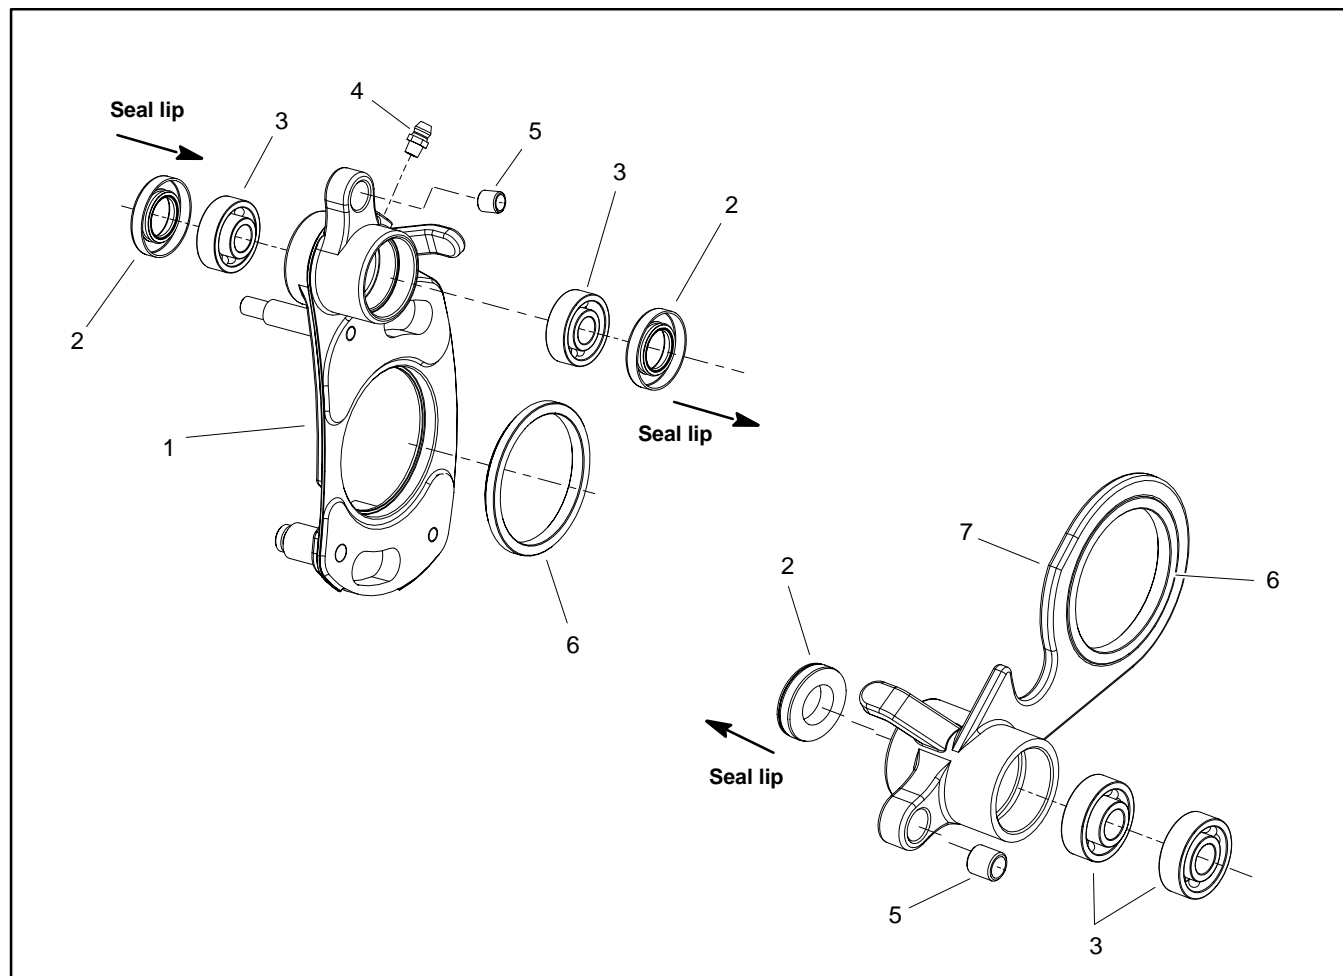

Figure 13
Bearing Removal (Fig. 13)
3. Replace bearings in **both** side plate assemblies (Fig. 13):
Bearing Installation (Fig. 13)
1. Install new bearings in **both** side plate assemblies (Fig. 13):